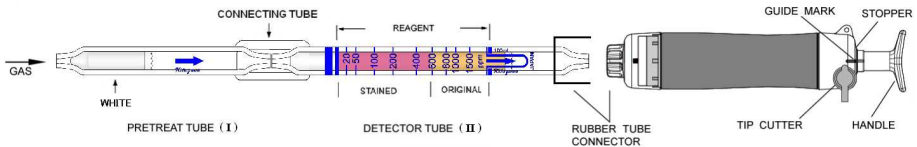

Fig.1
- ① Break both ends of the pretreat tube (I) and detector tube (II), and connect each end of the pretreat tube (I) and detector tube (II) with connecting tube as shown in Fig. 1.
- ② Insert the detector tube (II) into the aspirating pump securely as shown in Fig.1. (Arrow marks shall point to the pump.)
- ③ Align the guide marks on the shaft and stopper of the aspirating pump.
- ④ Pull the pump handle at a full stroke until it locks and wait for 1.5 minute or until the completion of sampling is confirmed with the flow indicator of the pump. (See descriptions about the flow indicator in the instruction manual of the pump.)
- ⑤ On completion of sampling, read the scale at the maximum point of the stained layer.